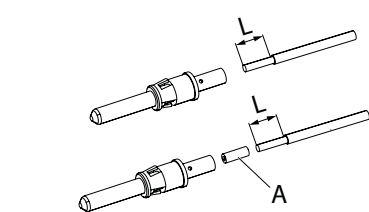
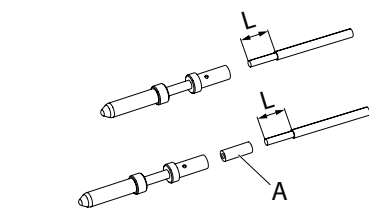

Fig. 8: Pilot contacts
Fig. 9: Auxiliary contacts
1. Strip the cables for the pilot/auxiliary contacts to length L as indicated in the table below (*Fig. 8* or *Fig. 9*). If a reduction of the connection cross section is necessary, use reducing bushing (A) (*Fig. 8* or *Fig. 9*).